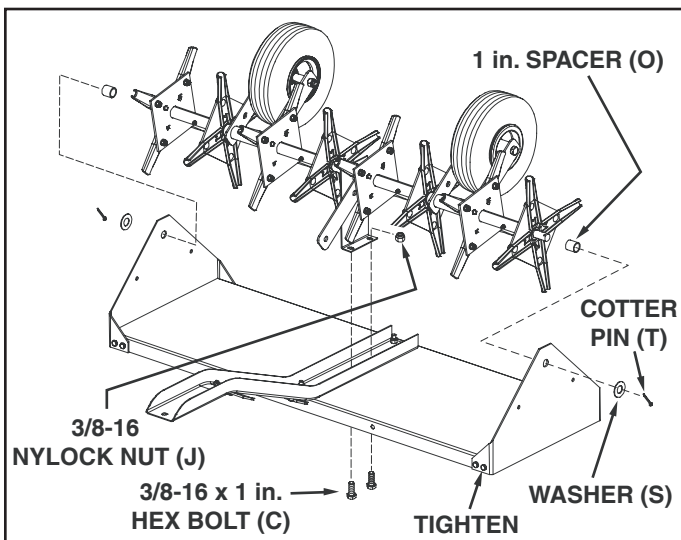

FIGURE 9
- Turn tray upside down and install two 1 in. long steel tube spacers, one on each end of shaft. See figure 9.
- Position the shaft assembly with each end of the shaft extending through the holes in the end plates and secure each end of the shaft with a large flat washer and cotter pin. See figure 9.
- Fasten the middle bracket to the tray assembly using two 3/8-16 x 1 in. hex bolts and two 3/8-16 nylock hex nuts. **Tighten** all tray to end plate bolts. See figure 9.